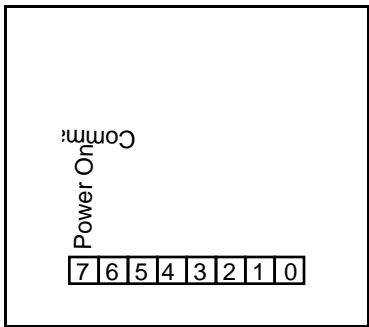

Figure 2. Three ESR Bits Set by the Simulator
- Figure 2. Three ESR Bits Set by the Simulator 6
Figure 2 illustrates the bits defined by the Simulator for the ESR register—bit 7 (Power On), bit 5 (Command Error), and bit 0 (Operation Complete). Bit 7 is set when the Simulator is powered on; bit 5 is set when the Simulator receives an invalid command; and, bit 0 is set when the Simulator receives the *OPC command. You can use the *ESR? command to query the value of the ESR register. The value returned is in either ASCII or HEX, as specified by the FORMat:SREGister command. The ESR register is cleared after you read it.